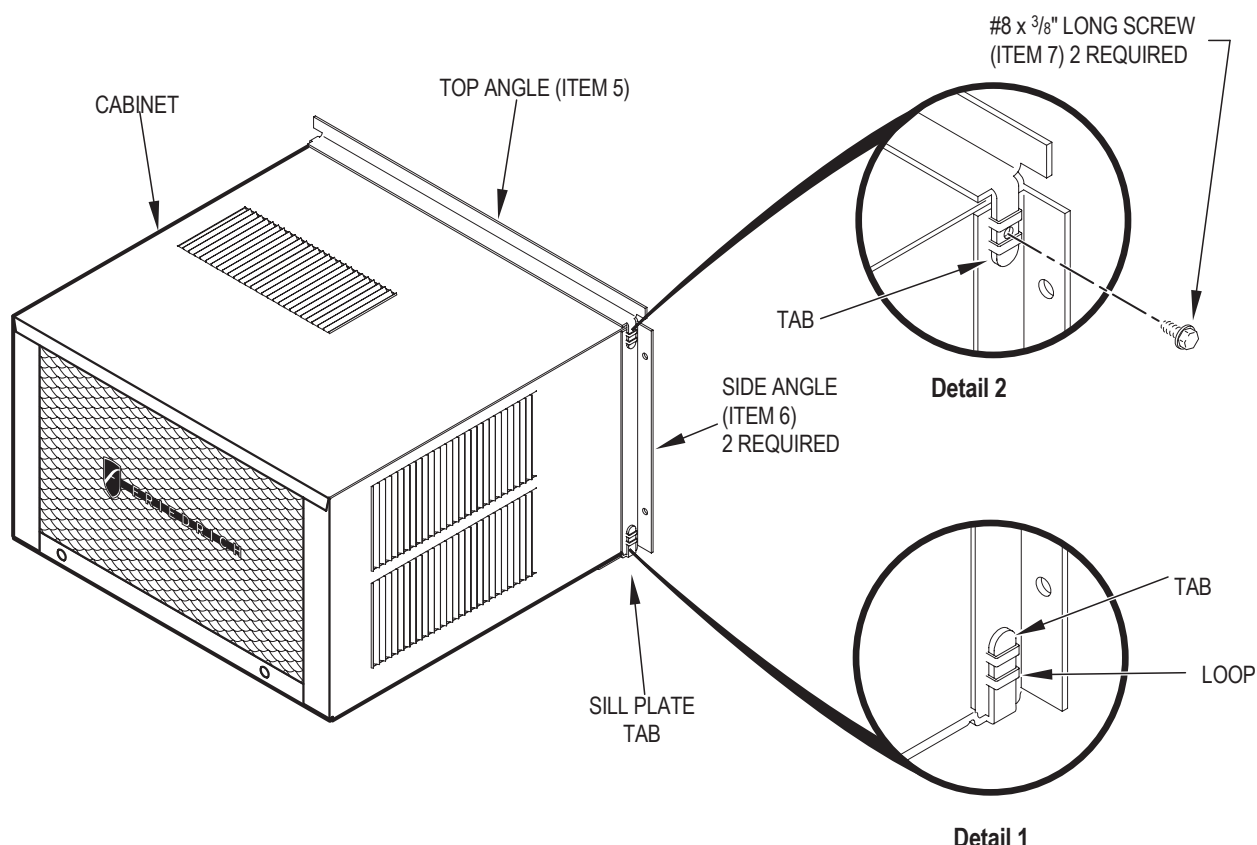

Figure C.4.4
STEP 3. Anchor the brackets (Item 6) by engaging the tabs of the lower sill plate (C.4.4 Detail 1) with the loops of the side angle. Engage the tabs of the top angle (Item 5) with the top loops of the side angle (C.4.4 Detail 2). Install two (2) screws (Item 7) to secure the top angle tabs and the side angle to cabinet (see Figure C.4.4 Detail 2).